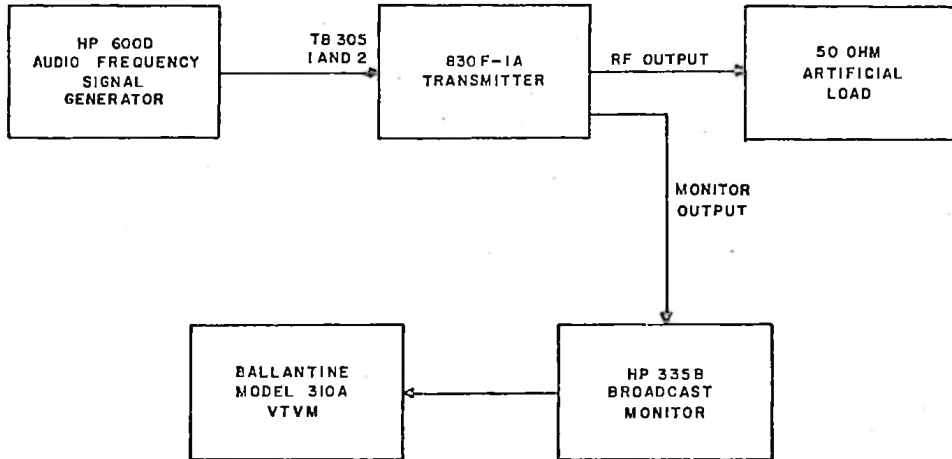

Figure 5-4. FM Noise Test Setup
a. Refer to figure 5-4. Connect an audio frequency signal generator, such as a Hewlett-Packard Model